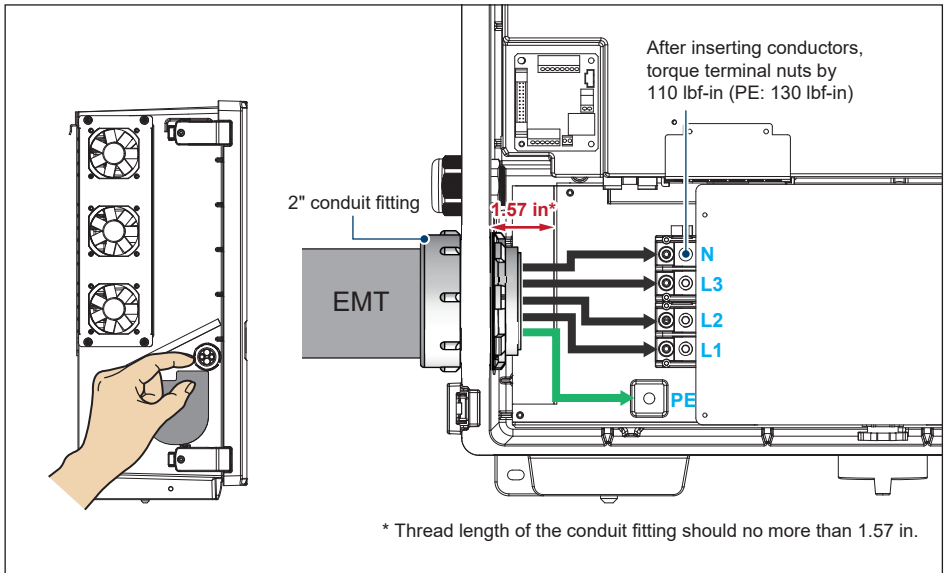

Figure 3-14: Location for AC Terminal
4. After conductors are inserted, use 3/16" (5mm) hex wrench to tighten L1, L2, L3 and N terminals with the torque shown as **Figure 3-14**.